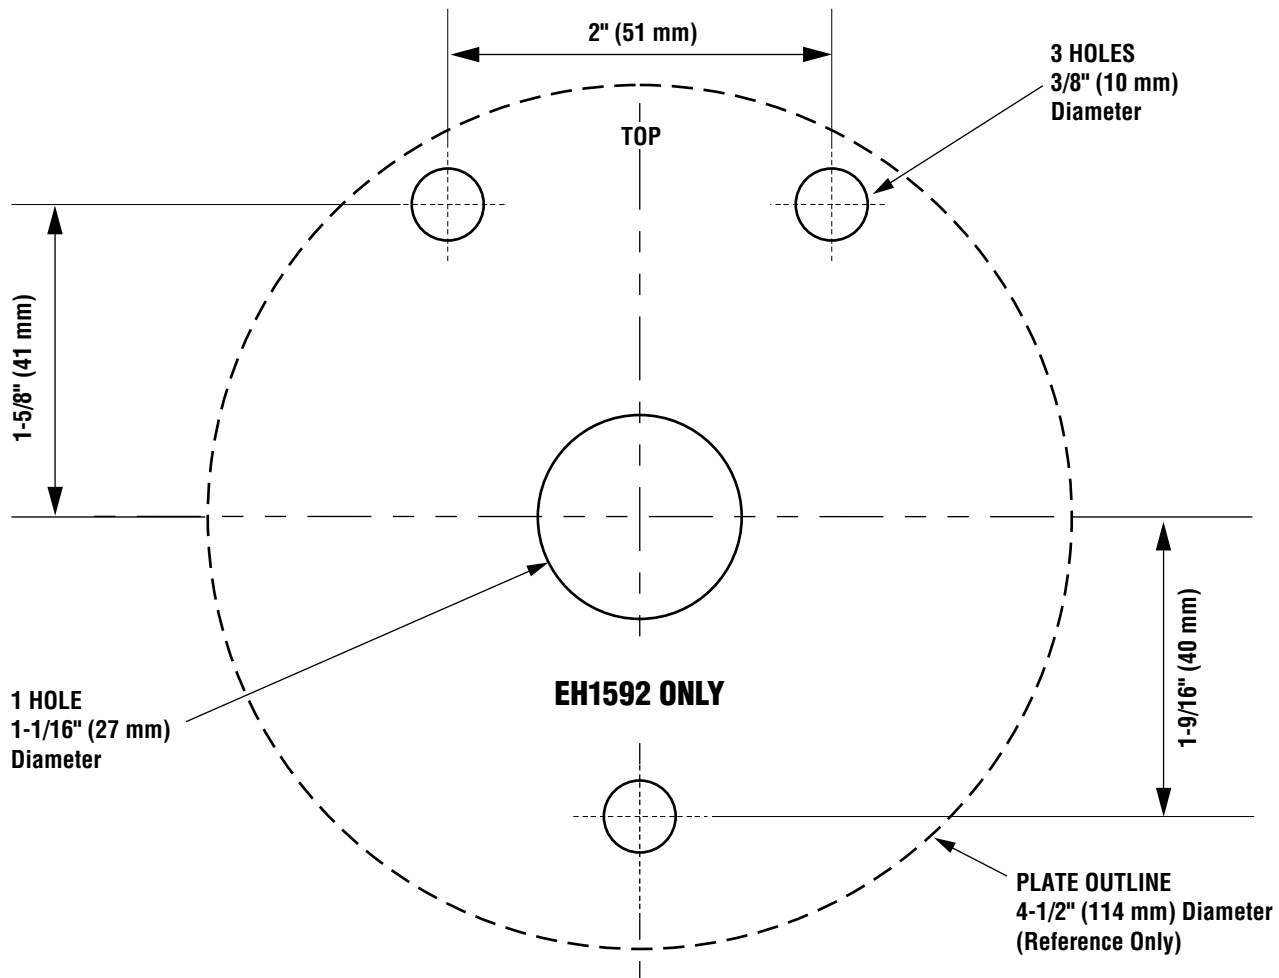

Figure A-5.
**This template to be used for EH1570 and EH1572 ONLY. See figure A-5 on page A-8 for EH1592 template.**